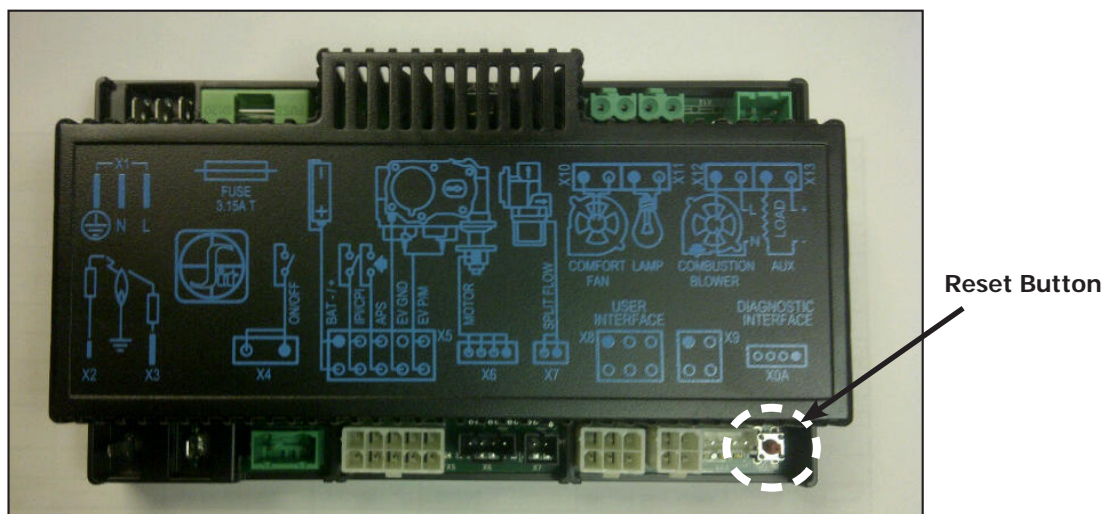

Figure 7: Integrated Fireplace Controller
The Proflame 2 IFC (Figure 7) connects directly to the gas valve, stepper motor, pilot, convection fan, and accent lights with wiring harnesses. The IFC is mainly powered by 120 VAC but can also run off a battery backup four (4) AA type batteries for shorter periods of time. The IFC accepts commands via radio frequency from the Transmitter to operate the appliance in accordance with the particular Proflame 2 system configuration. The IFC has a red reset button at the front right corner that is used to synchronize the Transmitter when using the for the first time, or after the batteries have been replaced.
Install the four (4) AA batteries into the IFC battery holder. Note the polarity of the battery and insert into the battery bay as indicated on the body of the battery holder. Press and release the reset button (see Figure 7).